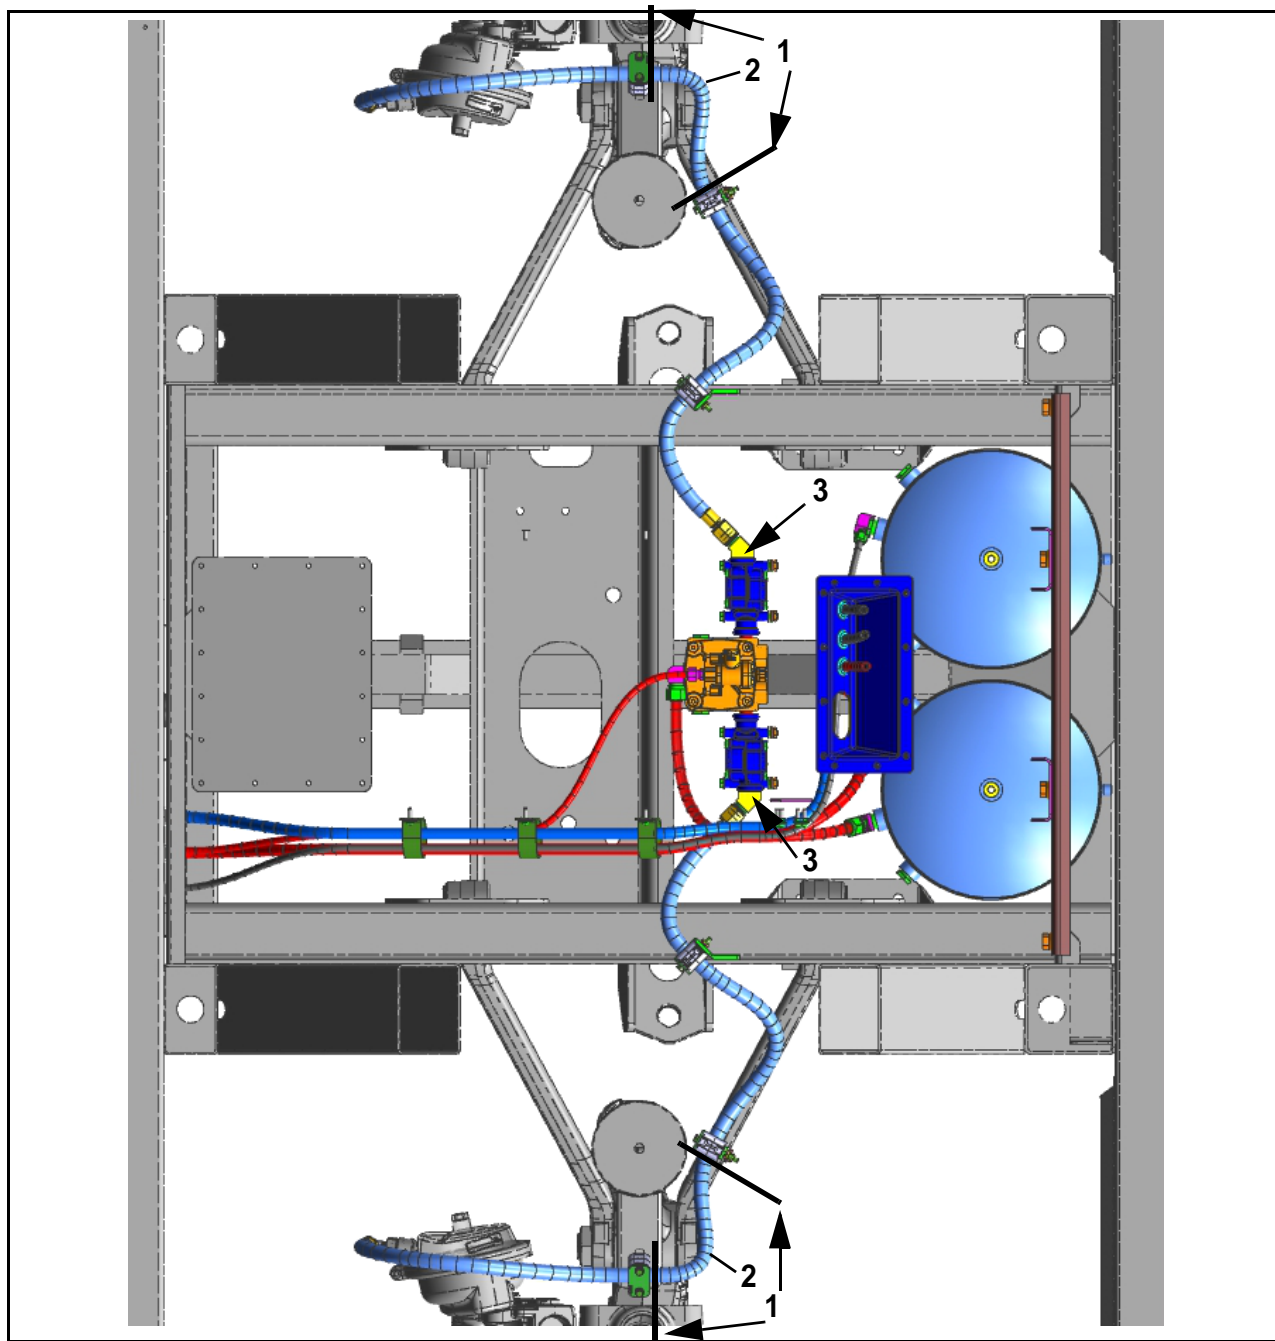

Figure 12.
22. Using a measuring tape, ensure that the front brake hose assembly routing length is the 8.00 to 8.25 inches of hose length from face to face of the clamps while maintaining a minimum bend radius of 2.25 inches as shown in Figure 12.
Item	Figure 12 Description
26. Using two (2) wrenches, remove and discard the straight fitting from the front brake module. Apply a pair of drops of sealant to the NPT threads of the 45 degree fitting, p/n 19-10-1956. Install the 45 degree fitting, fingertight, in the front brake module as shown in Figure 12. Using two (2) wrenches, tighten the fitting 2.50 turns. Tighten fitting to orientation shown in Figure 12.
27. Orient and connect, using two (2) wrenches, the end of the brake hose assembly to the 45 degree fitting on the front brake module valve. Torque to 56-60 ft-lbs.
31. Enter the coach cabin. With the air system full, apply and hold a service brake application. Have a second person spray a mixture of soapy water to the threads and swivel nut of the brake hoses bundle. Monitor for thirty (30) seconds for signs of a leak. If a leak is present, tighten and repeat Step.